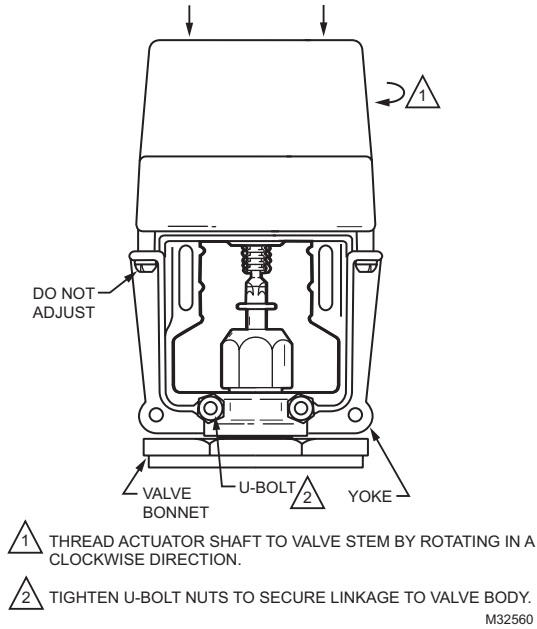

Fig 4. Assembly of ML7984A to valve.
1. The drive shaft of the ML7984 has a threaded hole to link with the valve stem. Slide the yoke over the valve bonnet (Fig 4)
3. Care should be exercised when using the TOOLS on the valve stem during tightening. (Fig 4) DO NOT damage the threads or other parts of the stem.